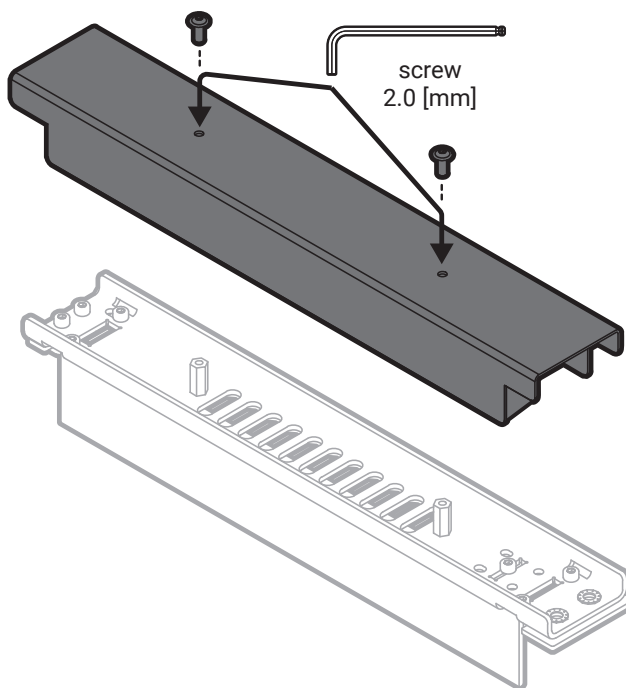

Fig. 9 Installing the Recoater blade black cover.
20. Using a 2 mm Allen key and two M3x8 screws, fasten the black cover onto the Recoater (fig. 9).